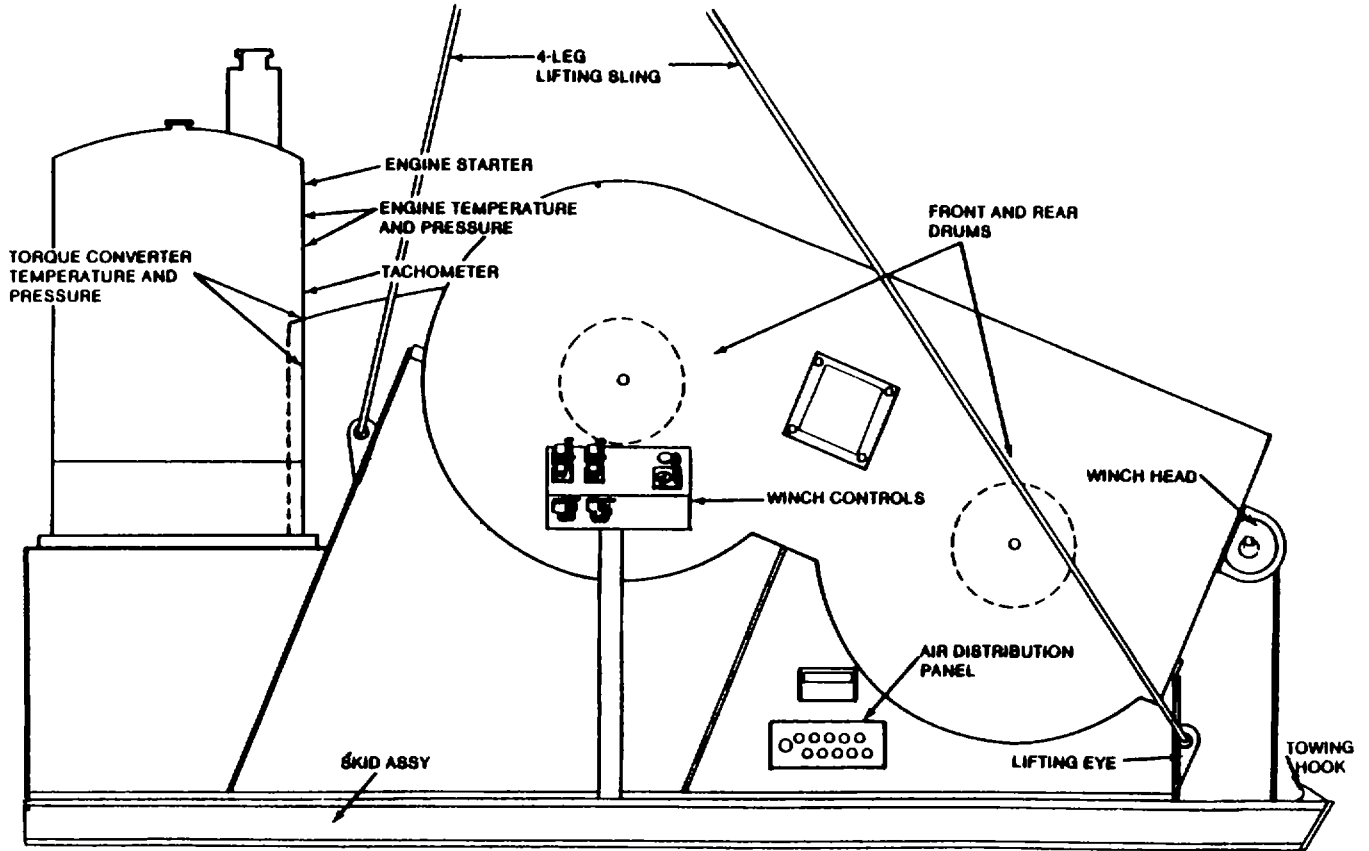

Figure 4-3. Hoisting Sling.
- (1) Stow all tools and equipment securely in their proper positions.
- (2) Drain diesel engine fuel tank.
- (3) Remove battery.
- (4) Stow all steel stakes, connecting plates and turnbuckles.
- (5) Roll up all winch cable on reels.
- (6) Attach suitable lifting device of at least 20,000 pounds capacity to lifting eyes as illustrated in figure 4-3 and lift winch assembly on carrier bed.
- (7) Secure winch assembly, stakes and equipment to carrier bed with steel strapping or chain and move the equipment to new worksite.